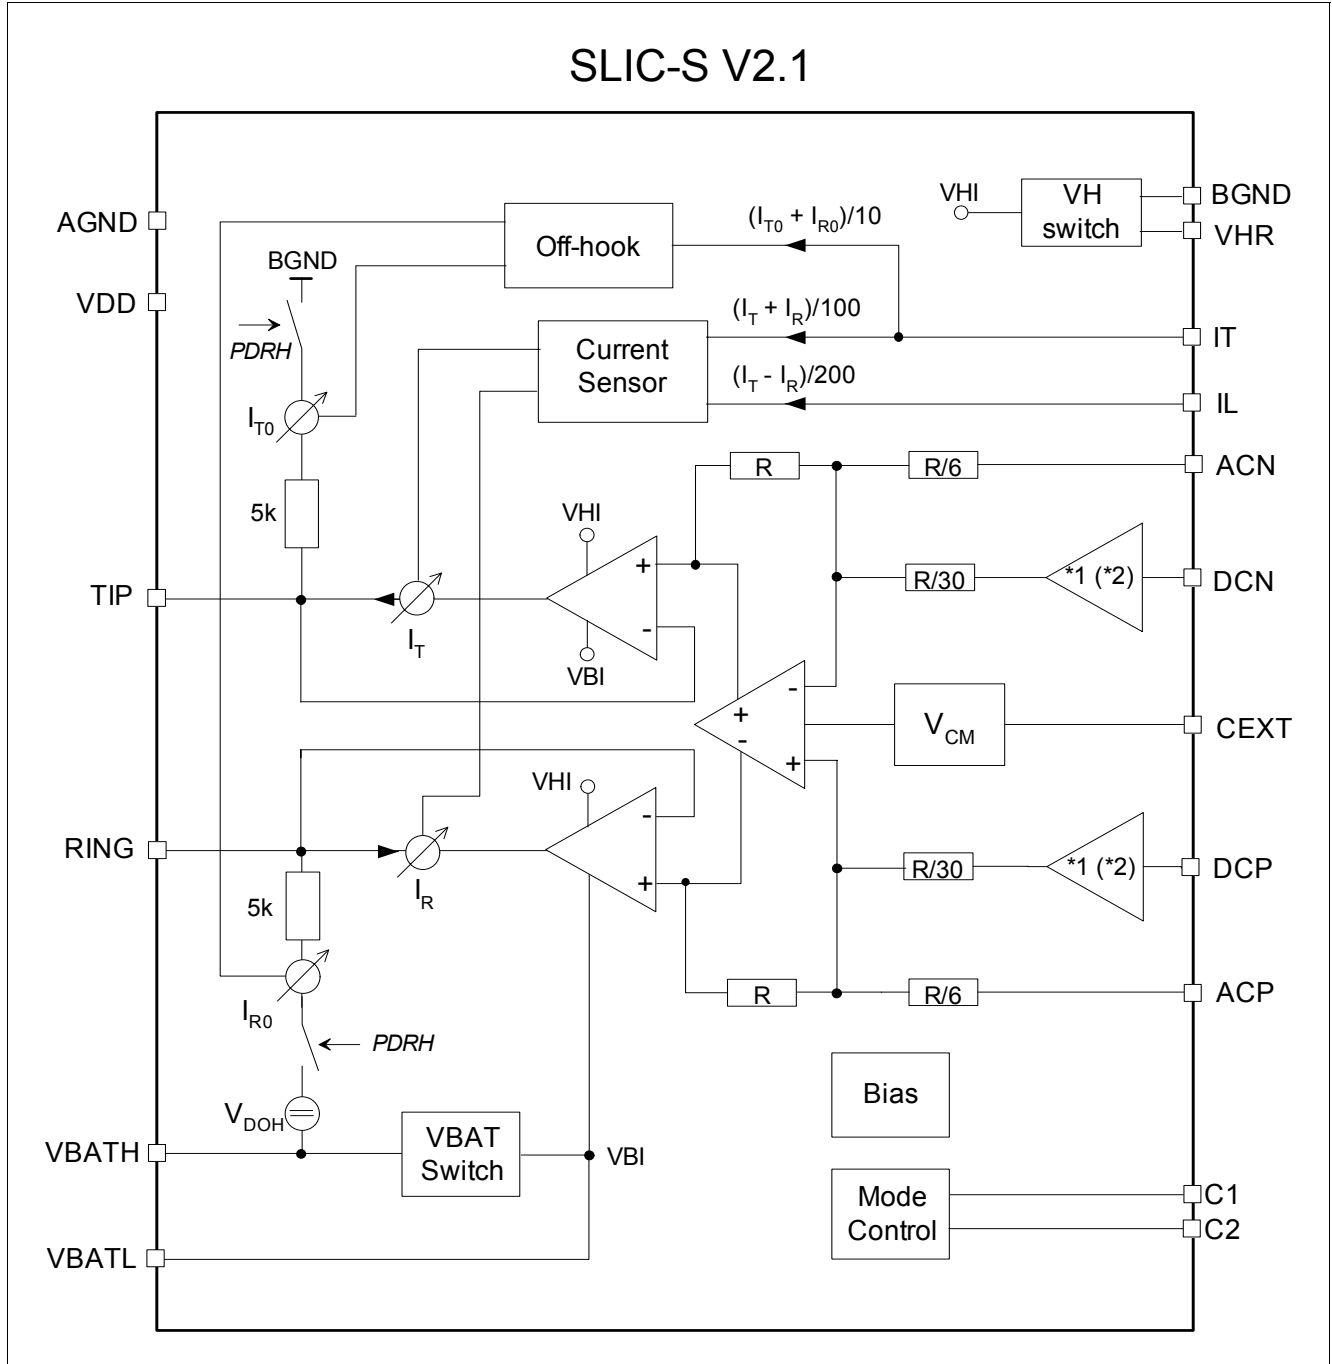

Figure 6 Block Diagram
A functional block diagram is shown in **Figure 6**.
Power consumption is reduced to a minimum by switching completely off all voice transmission functions. To allow off-hook detection, PDRH provides a connection of 5 k $\Omega$  each from TIP to BGND and RING to VBATH, respectively, while the output buffers show high impedance (see Figure 6). The current through these resistors is sensed, scaled by 1/5 and transferred to the IT pin for off-hook supervision.
3) Due to the changed battery switch concept (see **Figure 6**), the VBATL series diode must not be shared between different channels; one diode per channel is mandatory (also for applications with TSLIC-S).